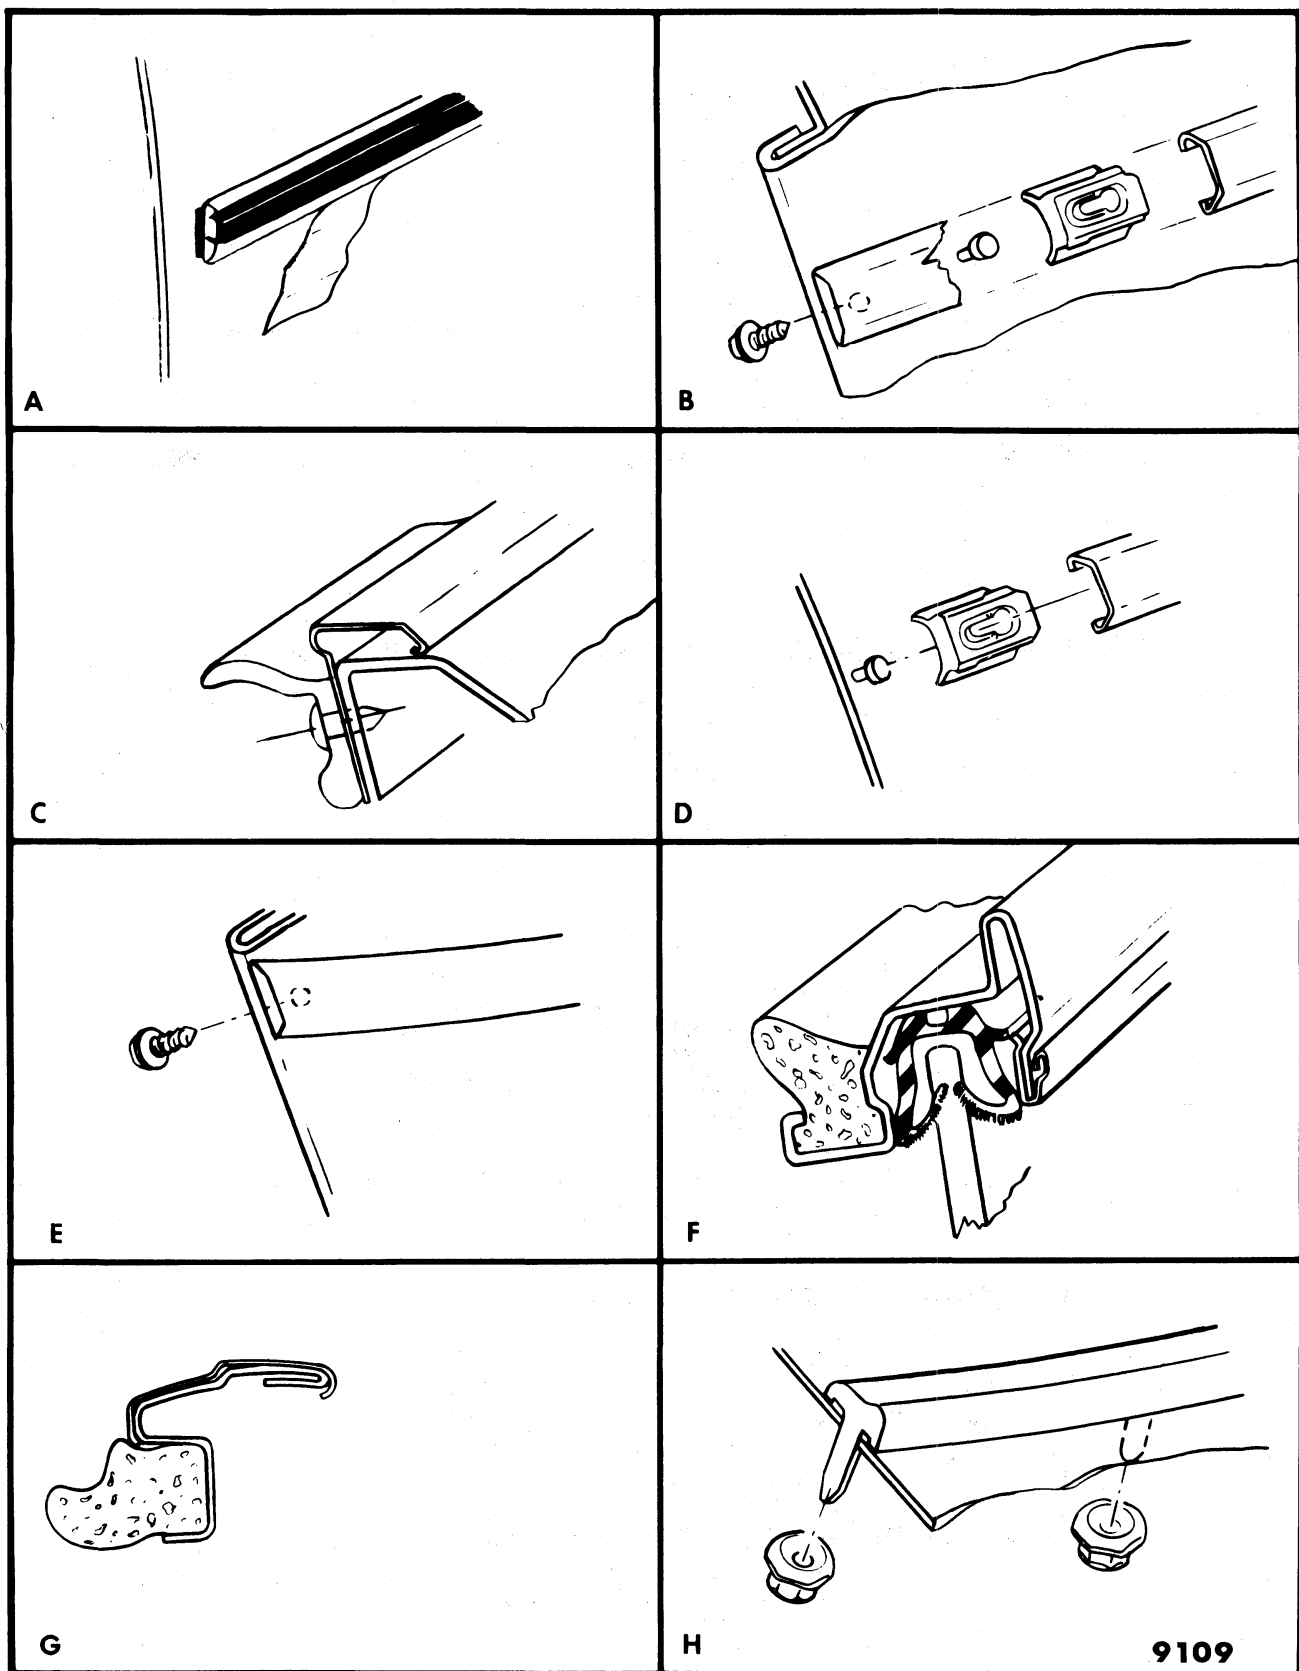

Fig. 5-18 - Door Molding Attachments
The door exterior moldings are secured to the body by any one or a combination of the following attachments. Fig. 5-18 illustrates the various door molding attachments.
2. Locate molding number on installation chart. Chart will then identify molding name, attachment(s) reference to Fig. 5-18 and specific style (if difference in attachment exists).